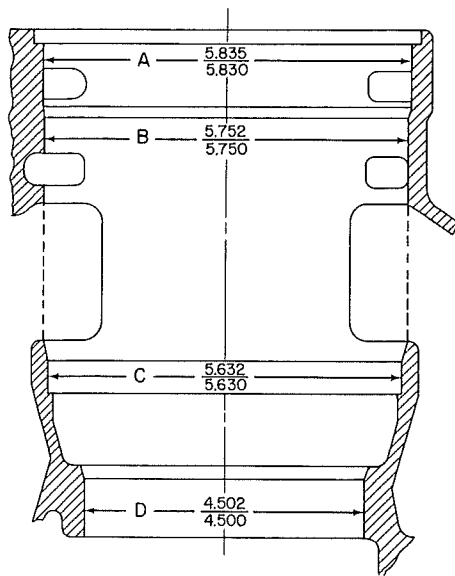

FIG. 27—CRANKCASE SLEEVE SEAT CHECKING VALUES
a. Remove all dirt, oil, and scale from the cavity, being careful not to burr or scratch the machined surface. Measure the cavity at points A, B, C, and D in Fig. 27. These points should not be more than 0.00015" [0,0038 mm.] out-of-round, and within the tolerance shown below.